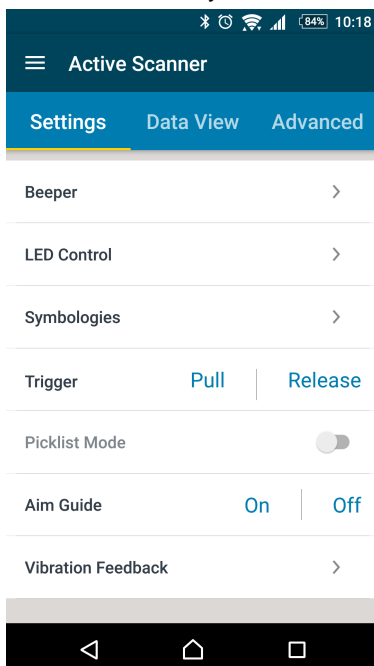

Figure 1-10 Settings - Active Scanner (Connected Device)
- When a device is selected in the Available Device List on page 1-8, the application attempts to connect to the scanner. When the connection is made, Figure 1-10 displays.